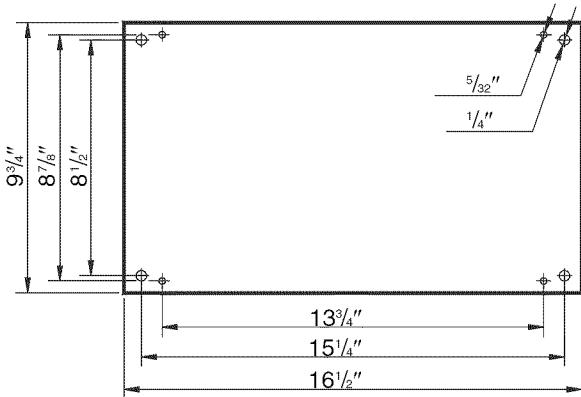

Figure 3 - Installing Jointer/Planer
- The $\frac{1}{4}$ " holes (see Figure 3, page 4) are intended for installing jointer/planer using bolts, lockwashers and hex nuts.
- The $\frac{5}{32}$ " holes (see Figure 3, page 4) are intended for installing jointer/planer using wood screws.